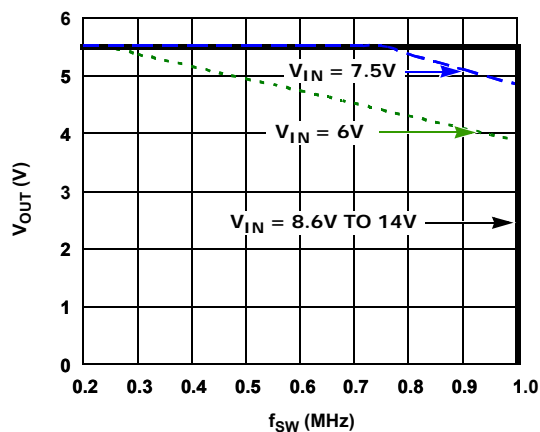

FIGURE 8. SAFE OPERATING AREA,  $T_J \leq +125^\circ\text{C}$
10. Refer to Safe Operating Area in Figure 8 and thermal design guidelines in AN2010.
12. Percentage of Full Scale (FS) with temperature compensation applied.